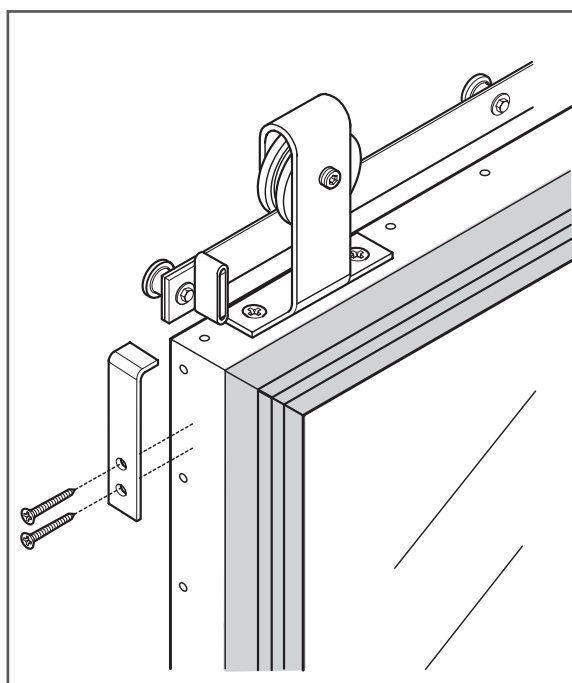

Figure 11
18. Install the bracket to the door edge with 2 phillips screws (E.) using a drill with a phillips bit (Figure 11).